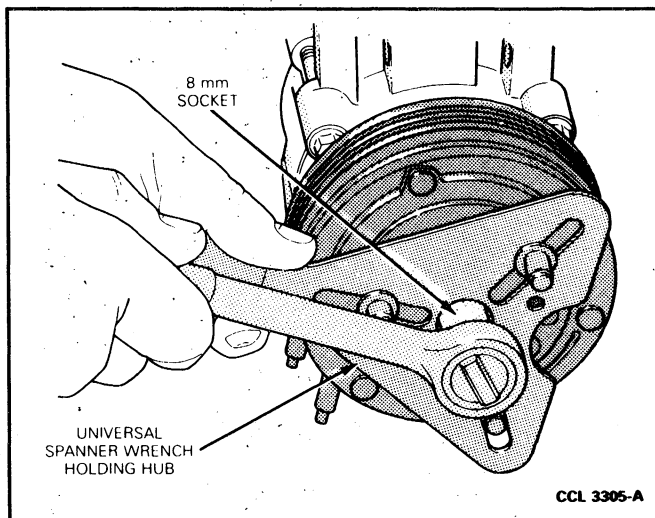

FIG. 5 Removing Clutch Hub Retaining Bolt
1. Remove the clutch hub retaining bolt. Use Spanner Wrench T70P-4067-A or equivalent (Fig. 5).